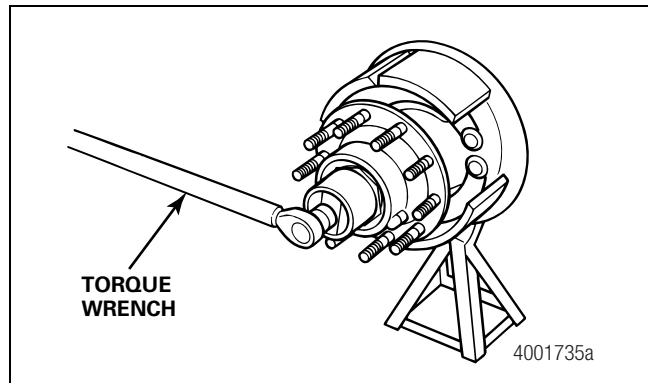

Figure 3.32
7. Use a torque wrench to tighten the inner nut to 700-750 lb-ft (952-1020 N•m) while rotating the hub a minimum of five complete turns. Because of the high torque values required, using a torque multiplier is helpful. Take care when you install the inner nut to ensure the socket does not damage the hub outer seal. Figure 3.32. **ⓘ**